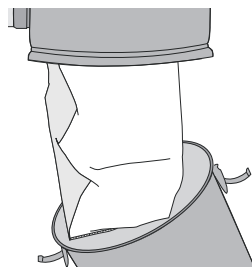

figure 13
1. To access the bag, unlatch the two clips and remove the dirt receptacle (**figure 13**).